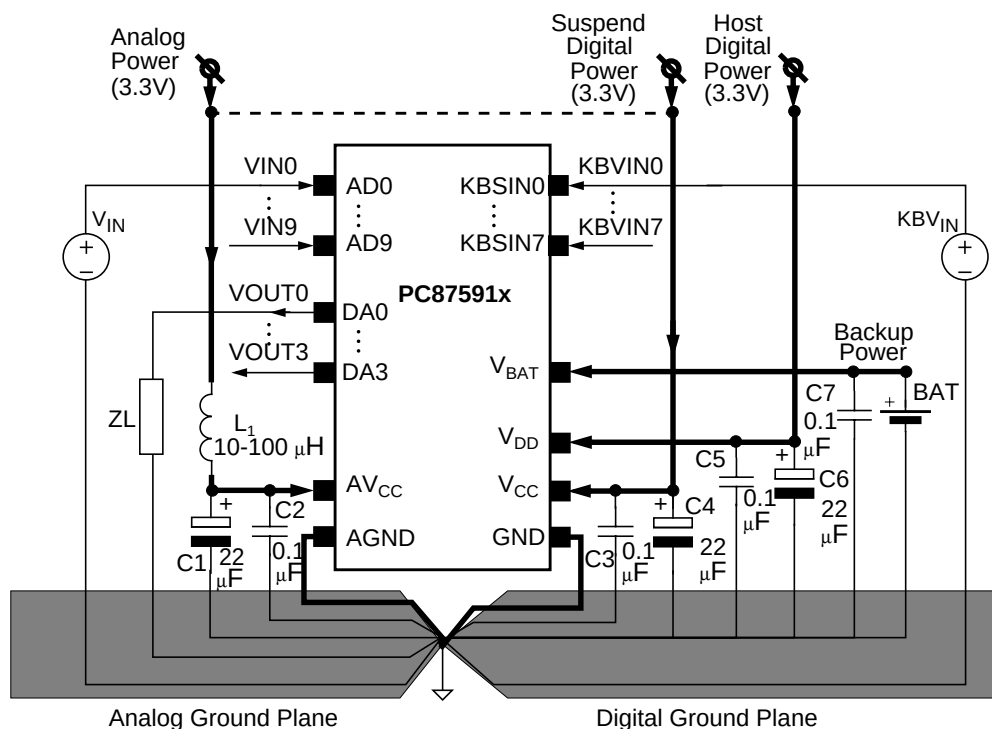

Figure 9. PC87591x Power Supply Connection
The following directives are recommended for the PC87591x power and ground connections (see Figure 9 for the power supply connections):
- The ground reference of the voltage input signals to the ADC module (V_{IN0-9} in Figure 9) should be connected to the AGND plane close to the PC87591x.
- The ground reference of the voltage output signals from the DAC module (V_{OUT0-3} in Figure 9) should be connected to the AGND plane close to the PC87591x.
- The ground reference of the voltage input signals to the ACM module (KBV_{IN0-7} in Figure 9) should be connected to the GND plane close to the PC87591x.
The analog supply pin, AV_{CC} , should be connected to a low-noise power supply that has the same voltage as the digital supply (3.3V). If the AV_{CC} pin is connected to the same power supply as the V_{CC} pin, it is recommended to use an external LC or RC filter for the AV_{CC} pin. An example of an LC filter [L_1 and (C_1+C_2)] is shown in Figure 9. An RC filter is obtained by replacing L_1 (in Figure 9) with a 10 Ω resistor (not shown in the figure).
The following decoupling capacitors should be used to reduce power supply deeps, ground bounce and EMI (refer to Figure 9 for the position of capacitors, e.g., C1, C2, etc.):